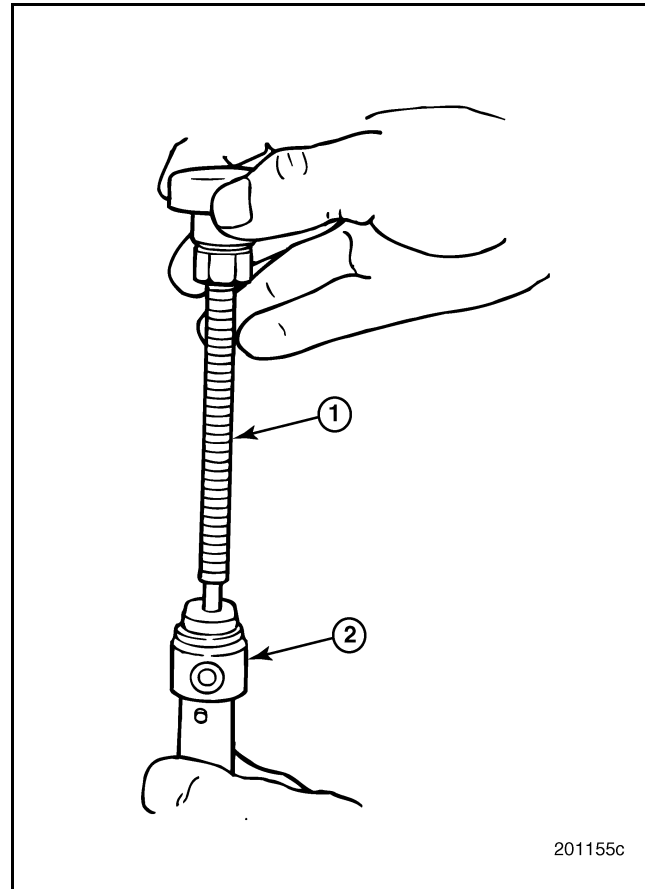

Figure 372 — Puller Application
3. Thread injection nozzle puller J 37093 into the top of nozzle holder as shown in Figure 372.